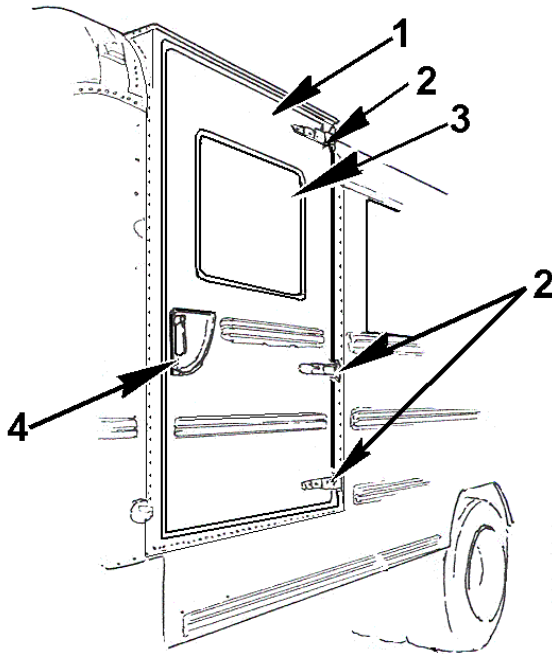

Figure 32 Chair Lift Door (Shown At Rear With Forward Exterior Hinge Assembly)
Optional handicapped access requirements are an available option. The wheelchair lift is available in different configurations. Depending on the district requirement the chair lift may be located at the rear side bus, at mid point, or directly behind the passenger entry door (Fig. 32, item 1). Depending on the location, the door may swing left or right.